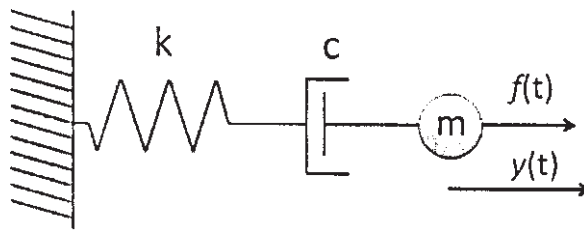

Figure 5b
- b) For the system in Figure 5b, derive the transfer function:  $(y(s)/f(s))$ . [8]